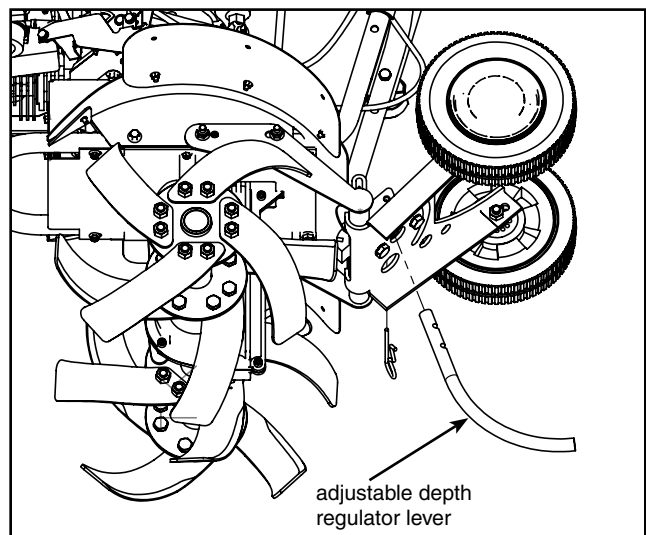

FIGURE 6-Depth Regulator Lever
1. Install the depth regulator lever through hole in bracket from the bottom up with curve to rear of unit and secure with 4 x 94 hair pin. **SEE FIGURE 6 ON PAGE 9.**
Tilling depth is controlled by the height of the depth regulator lever. SEE FIGURE 6.